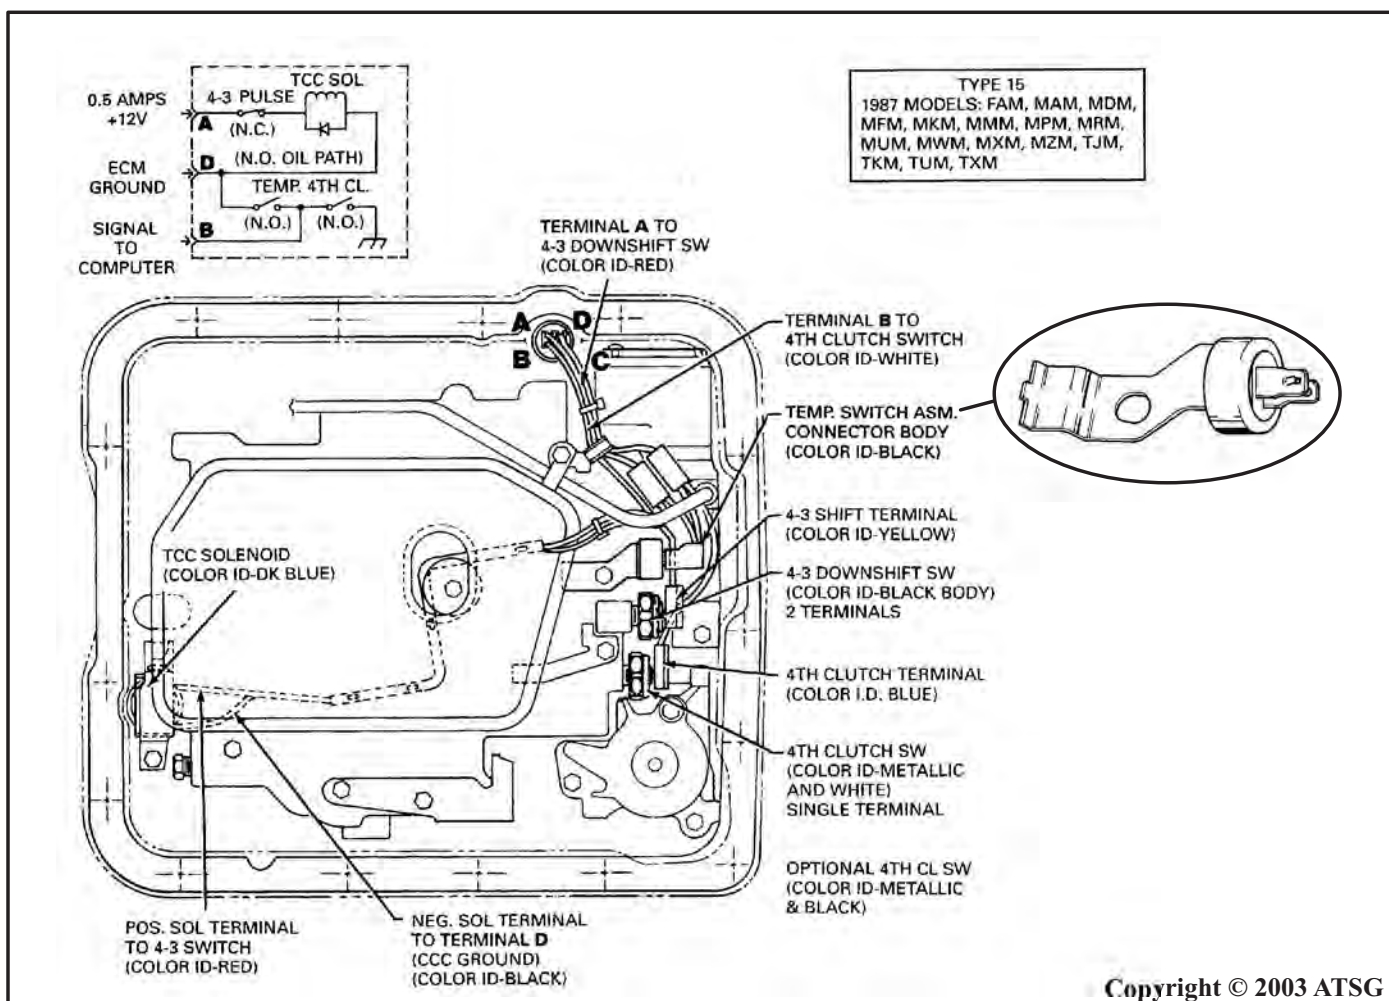

Figure 51
CHANGE: Beginning on June 28, (Julian Date 179) 1987, there was a new internal temperature switch that went into production on some models, as shown in Figure 51.
REASON: The new Temperature Switch mounts on the valve body and is submerged in transmission fluid in the oil pan, as shown in Figure 51. The temp switch supplies an alternate ground path for the TCC solenoid and applies the converter clutch when sump temperatures reach 125-135C (259-275F) and the transmission is in 4th gear.
- (1) **TEMPERATURE SWITCH** - Added on the date shown above and mounts on the valve body, as shown in Figure 51.
- (2) **INTERNAL WIRING HARNESS** - A new Type-15 solenoid and wiring harness assembly was need to accommodate the new temperature switch. The Type-15 wiring harness can be identified by a dark blue insulator and number 4415 cast into the top of insulator.
Cannot be used on any previous models and affects only the models listed in Figure 51.